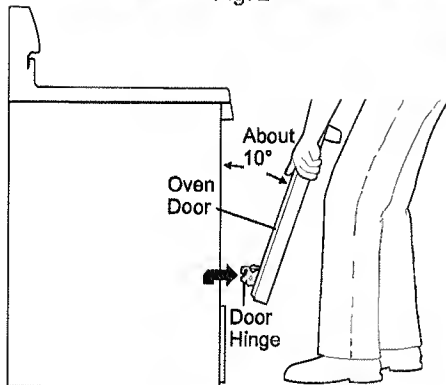

Fig. 3
3. Firmly grasp both sides of oven door along the door sides (Do not use the oven door handle - See Fig. 3).
1. Firmly grasp both sides of oven door along the door sides (Do not use the oven door handle - See Fig. 3).